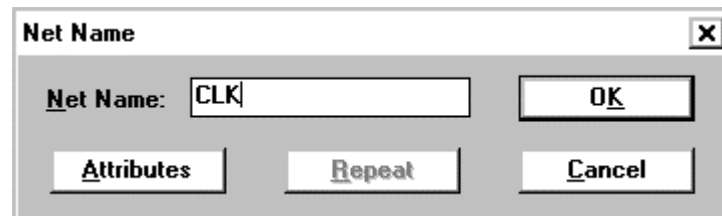

Figure 2. The Net Name dialog box.
- 2) To name the wires, double-click on the wire. This action will cause the “**Net Name**” dialog box to open (see Figure 2). Enter the name of the node and click on “**OK**”. The bus name should now appear in the schematic. Name the **CLK**, **RESET**, **STRSTP**, **CLKOUT**, **TERM** and **RST** nodes in the schematic.